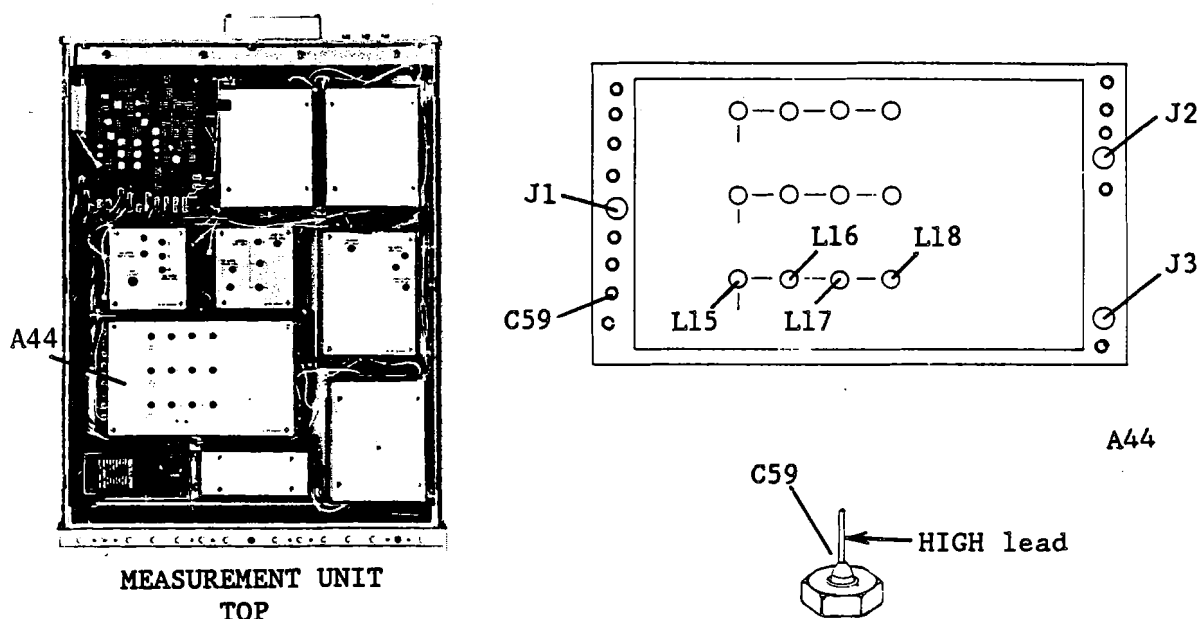

Figure A-7. 225 - 340 MHz Voltage Tune BPF Adjustment Locations
6. Connect the Voltmeter input cable **LOW** lead to ground, and **HIGH** lead to the center pin of HP 4195A A44C59, as shown in Figure A-7.